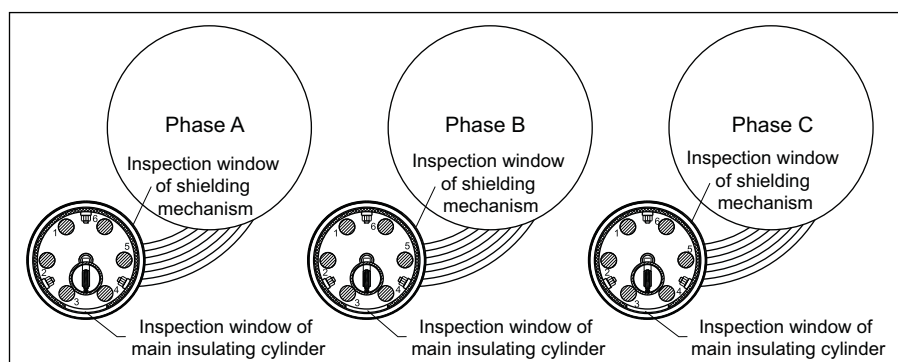

Fig. 8 Schematic diagram of relative position of 252kV drum type single-phase off-circuit tap changer against transformer
4.1.3 252kV single phase drum type tap changer: the inspection window of main insulating cylinder is between the fixed contact 3 and 4 in the circumferential direction. The relative location between main insulating cylinder inspection window and shielding mechanism inspection window is as shown in Fig. 8 .